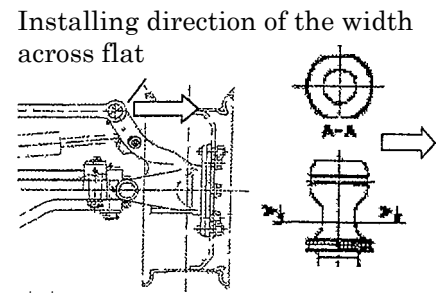

Fig. 12
Precaution ②: Match the direction of the width across flat section of the flange of the stud to the right angle direction to the tire (in parallel to the tie-rod). (Refer to Fig. 12.)